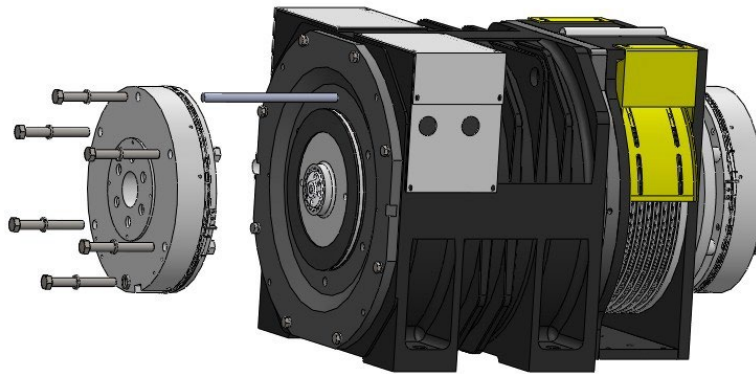

Figure 47 Reinstall Normal Brake
4. Install the threaded rod M16x320 into the top-hole of the end-cover. Figure 47.